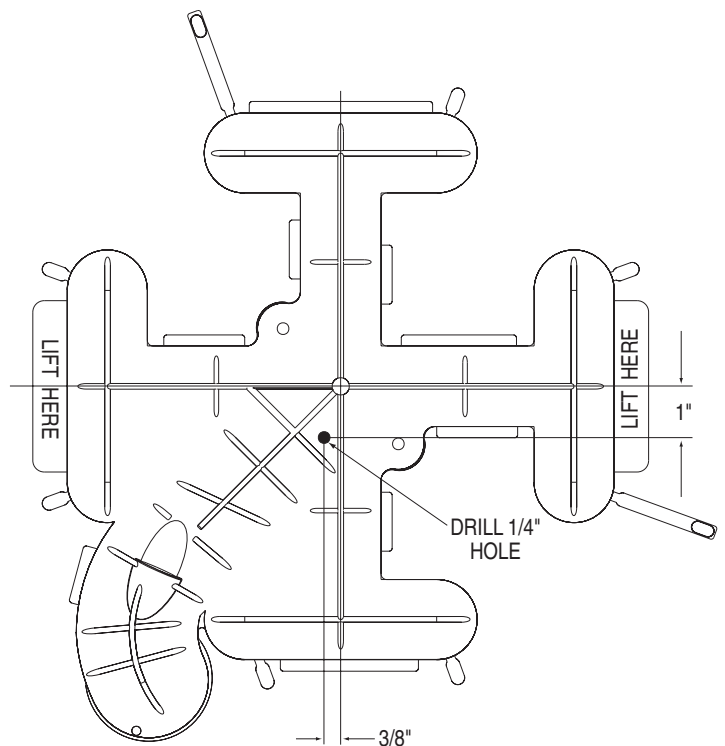

Figure 6.
13. Re-drill 1/4" diameter hole per Figure 6.